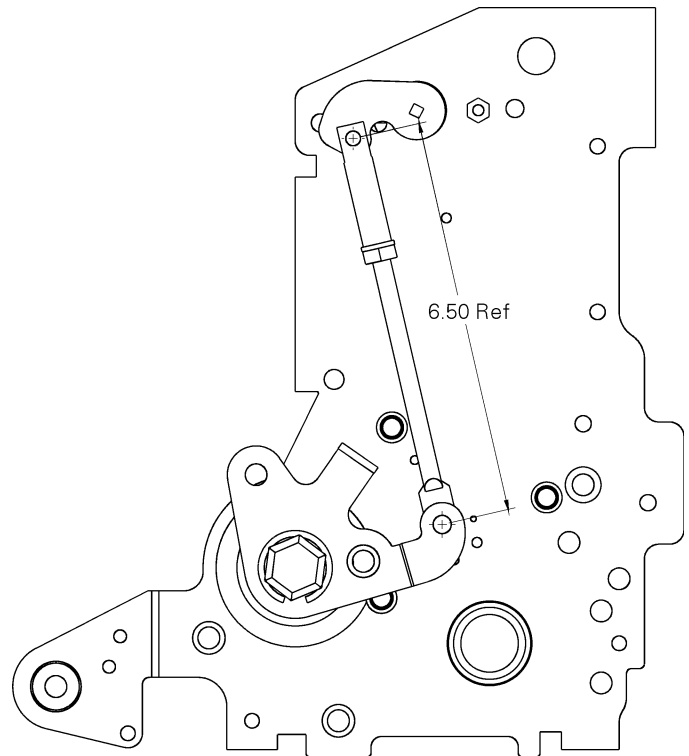

Figure 8-23. Adjusting the auxiliary switch linkage.
4. Check that the length between the pivots on the linkage is 6.50 inch, as shown in Figure 8-23.